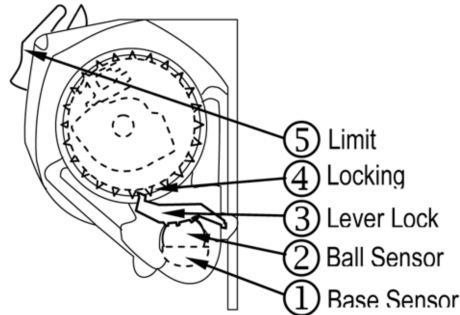

Fig. 2
2. Once positioned correctly, the Ball Sensor will become aligned in the Base Sensor allowing the Lever Lock to fall, disengaging the Locking Wheel (Fig. 2 & 3).